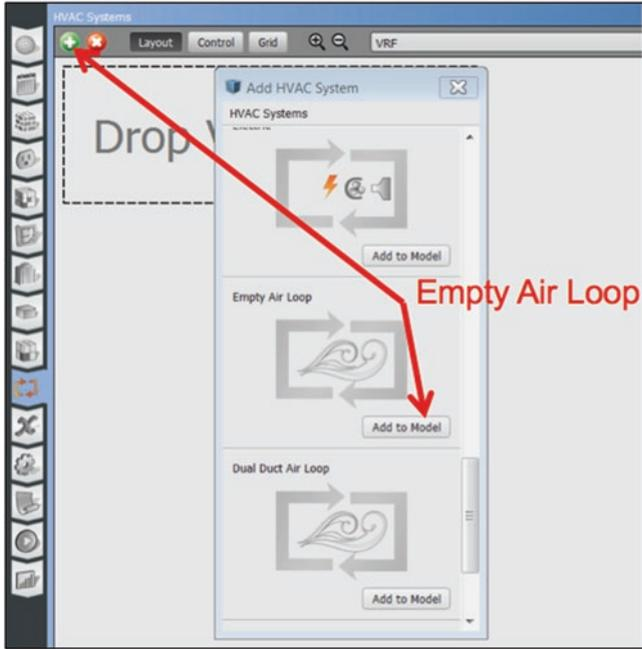

Fig. 5.39 Adding an empty Air Loop
We need to begin by creating an empty Air Loop. Empty loops are found amidst the other template systems. Use the (A) Button on the HVAC (H) Tab to add one as shown in Fig. 5.39.